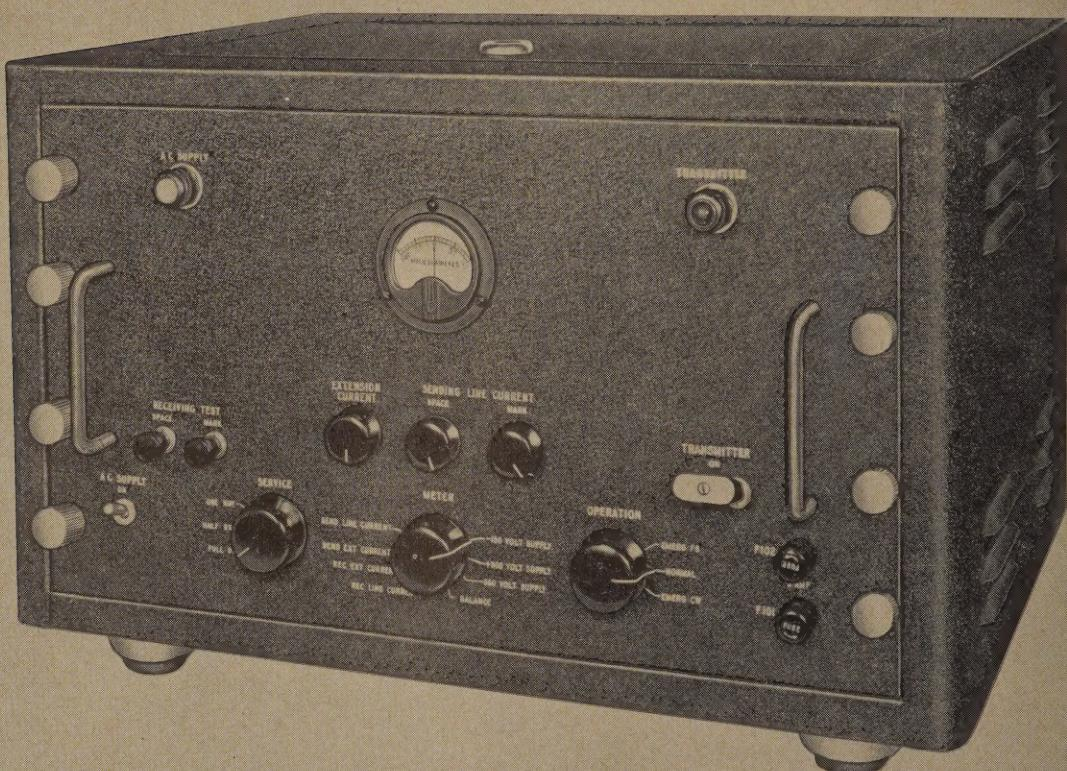

Figure 1. Control Unit C-292/TRA-7.
a. This technical manual contains a description of Control Unit C-292(\*)/TRA-7 (fig. 1) and its operating controls, a chapter on theory of operation, and instructions for field maintenance and repair of the equipment. In addition, this manual includes two appendixes covering a list of references and an identification table of parts.